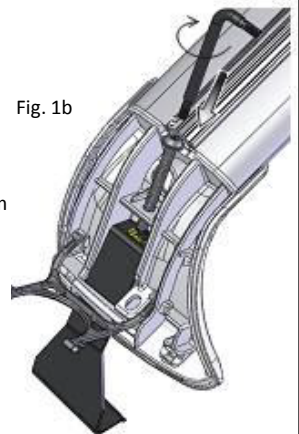

Fig. 1b
4. Use the supplied "L" wrench to feed the bolts into the cage nuts. (Fig. 1b) The "L" wrench is located inside the end support.